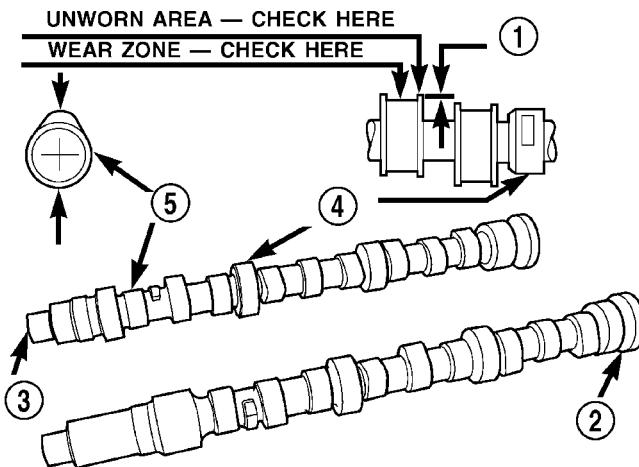

Fig. 21 Camshaft Inspection
(1) Inspect camshaft bearing journals for damage and binding (Fig. 21). If journals are binding, check the cylinder head for damage. Also check cylinder head oil holes for clogging.
(2) Check the cam lobe and bearing surfaces for abnormal wear and damage. Replace camshaft if defective.
(3) Measure the lobe actual wear (Fig. 21) and replace camshaft if out of limit. Standard value is 0.0254 mm (0.001 in.), wear limit is 0.254 mm (0.010 in.).